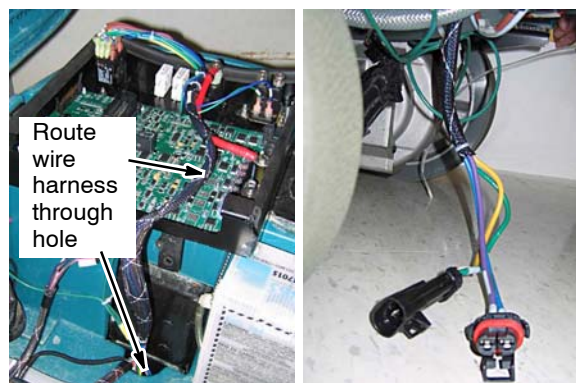

Fig. 4
1. Route the wire harness from the new control box to the floor as shown (Figure 4).